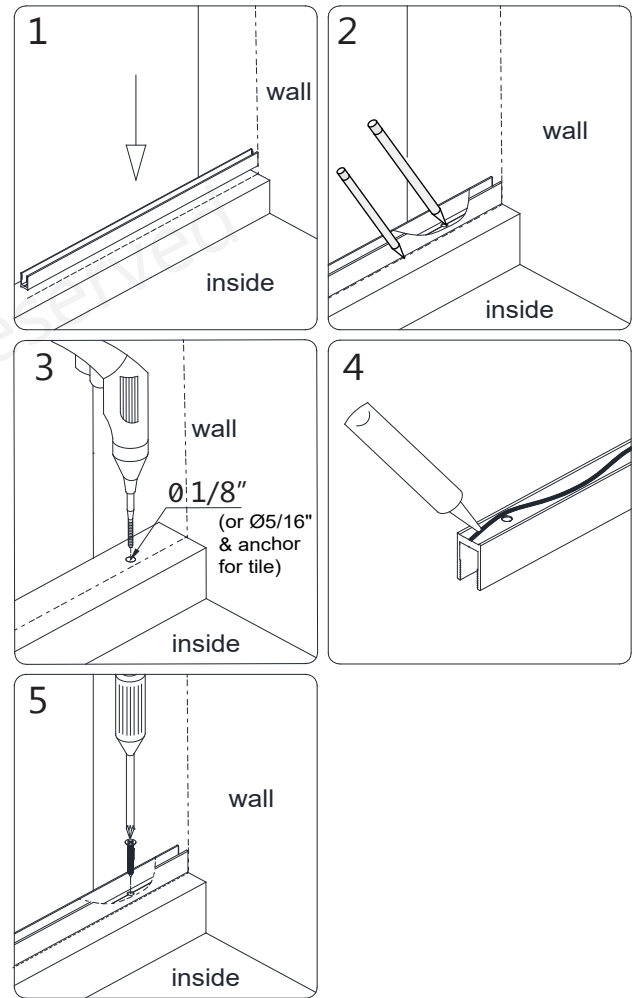

**Fig 11**
**11.** Cut the **Bottom U-channel 2 (#29)** to **24"** (see note\*\* below). (Fig 11)